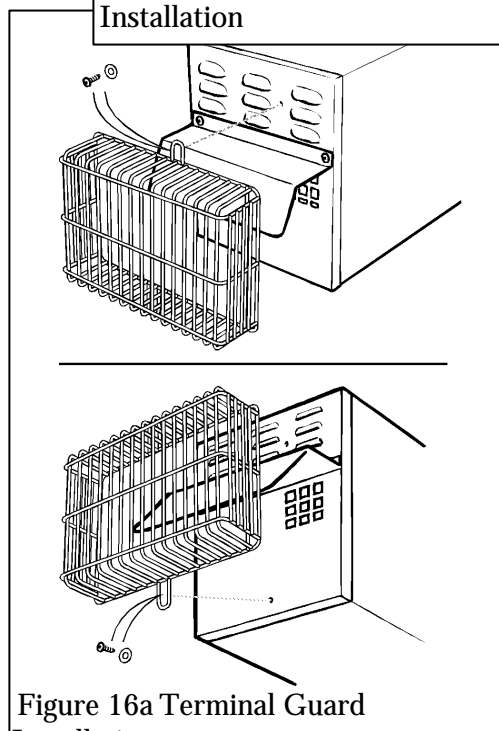

Figure 16a Terminal Guard
**9.1.4** Fit the terminal guard. Secure the guard at the bottom with the screw and washer previously removed. Secure the guard at the top between the two right hand columns of louvres using the screw and washer supplied in the pack. see figure 16a.